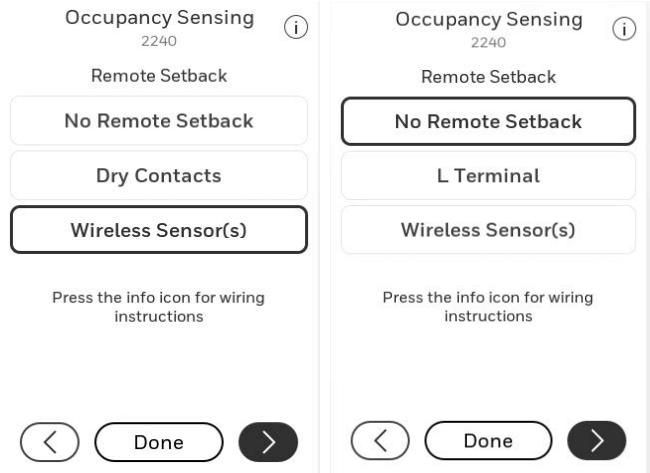

Fig. 117 Left: Options when EIM is used. Right: Options when EIM is not used.
1. Select a remote setback option in ISU 2240 (see Figure 117 below). C7189R3002 wireless indoor sensors have a built-in motion sensor. The “Dry Contact” or “L Terminal” settings require an external occupancy sensor which opens or closes a switch when occupancy is detected.